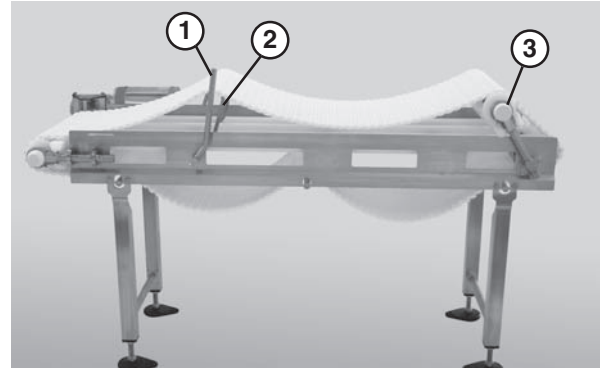

Figure 26
2. Use the lifter handle (Figure 26, item 1) to raise the lifters (Figure 26, item 2) if applicable, and raise the tip up tail (Figure 26, item 3).